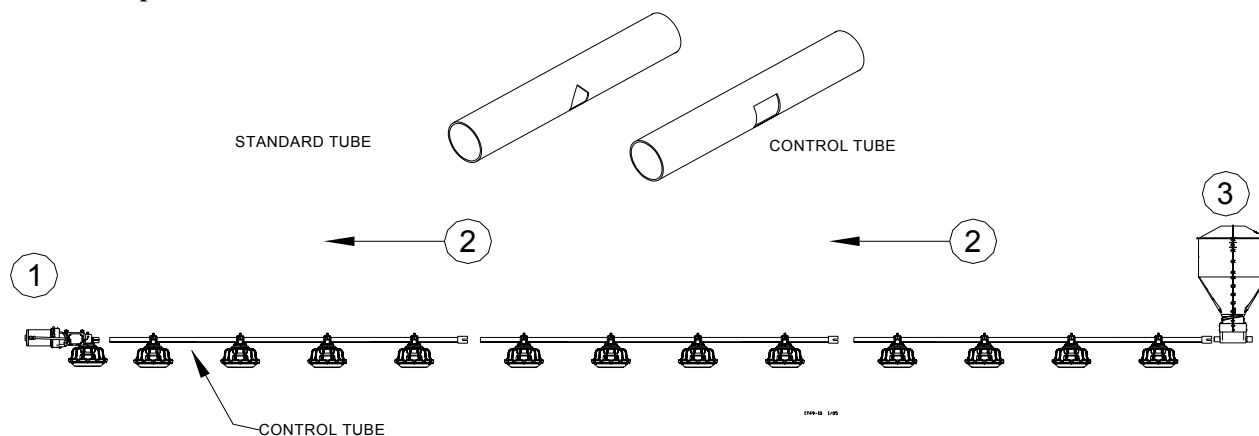

Figure 34. Attaching Feeder Tube Assemblies
1. The actuator, auger tubes and feeders may be laid out end to end in approximately the final location of the line. **The belled end of each tube should be toward the (3) Hopper end of the line. See Figure 34.** Be sure to have the correct number of tubes and the actuator is in the center of the section to be controlled by an actuator. **Place the actuator between the tubes near a suspension drop.** All actuators must be installed in the same direction. One actuator handles up to 96 feeder pans with the actuator placed dividing the (96) pans approximately in half.
2. Connect the individual feeder tubes together by inserting the straight end of one tube as far as possible into the (2) belled end of the next tube. **The last Feeder Tube before the (1) End Control Pan or Mid Line Control pan must be a Control Tube.**